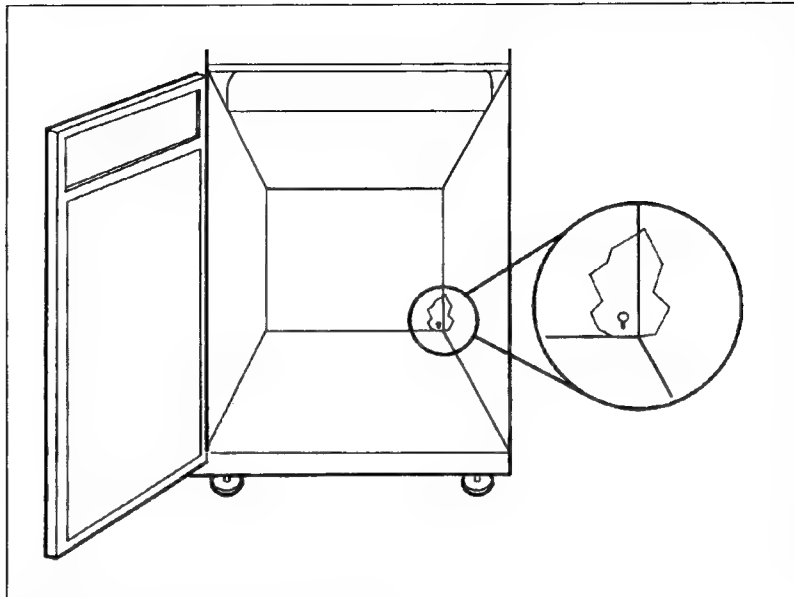

Figure 2-34. Installing Sound Shroud
- g. Tighten the two bottom screws to the back panel from inside the printer stand. You will need to hold back the soundproofing foam in order to reach the screws (Figure 2-34).